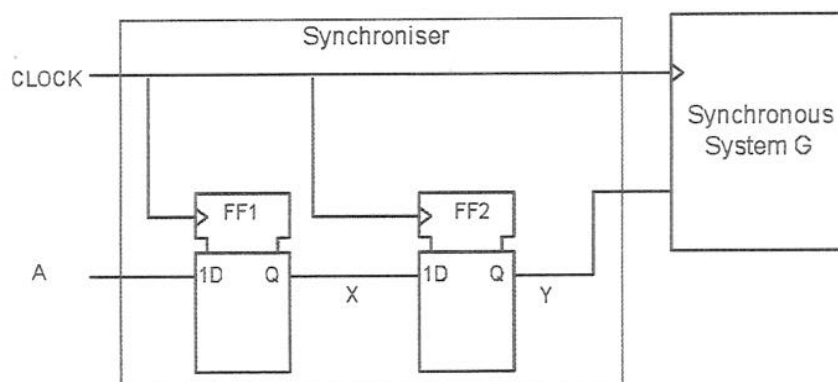

Figure 2.1
- d) Figure 2.1 shows a circuit to synchronise an asynchronous input A to a synchronous system G. The synchronous system G can operate with a maximum clock frequency of 400 MHz and the input setup time is 2ns. Flip-flops FF1 and FF2 have a setup time of 1ns, a hold time of 0ns, and a clock-to-output delay of 2ns. Ignoring the possibility of metastability, what is the maximum clock frequency of this circuit?